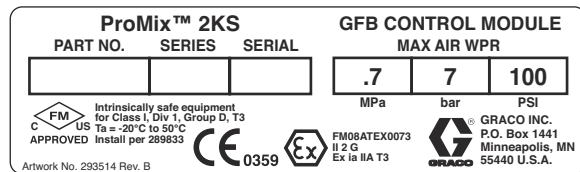

FIG. 1. GFB Interface Module Identification Label
Gun Flush Box Interface Kit 15V534 provides electrical and air connections to enable a ProMix 2KS RoboMix proportioner to operate one or two gun flush boxes. See FIG. 1 for the identification label.
Install the gun flush box module enclosure (1) within 15 ft (4.5 m) of the RoboMix, to ensure that the cable (23) will reach the RoboMix. The module is approved for use in a hazardous location. See FIG. 1.